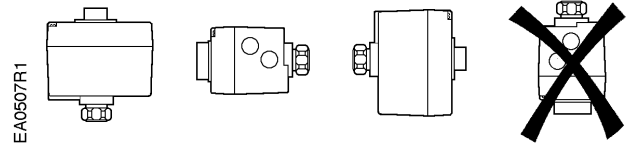

Figure 1. Acceptable Mounting Positions.
- Turn manual override knob (Figure 1) clockwise to move actuator coupling piece outward.